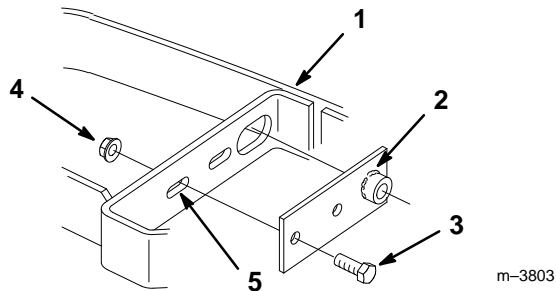

Figure 10
1. Place hopper tilt brackets inside bumper with tube weld away from the opening. Secure to bumper with (4) 3/8–16 x 1” (26 mm) bolts and (4) 3/8–16 flange locknuts (Fig. 10).
6. Adjust tilt brackets in slots (Fig. 10) so chute opening and hopper opening align at the front.